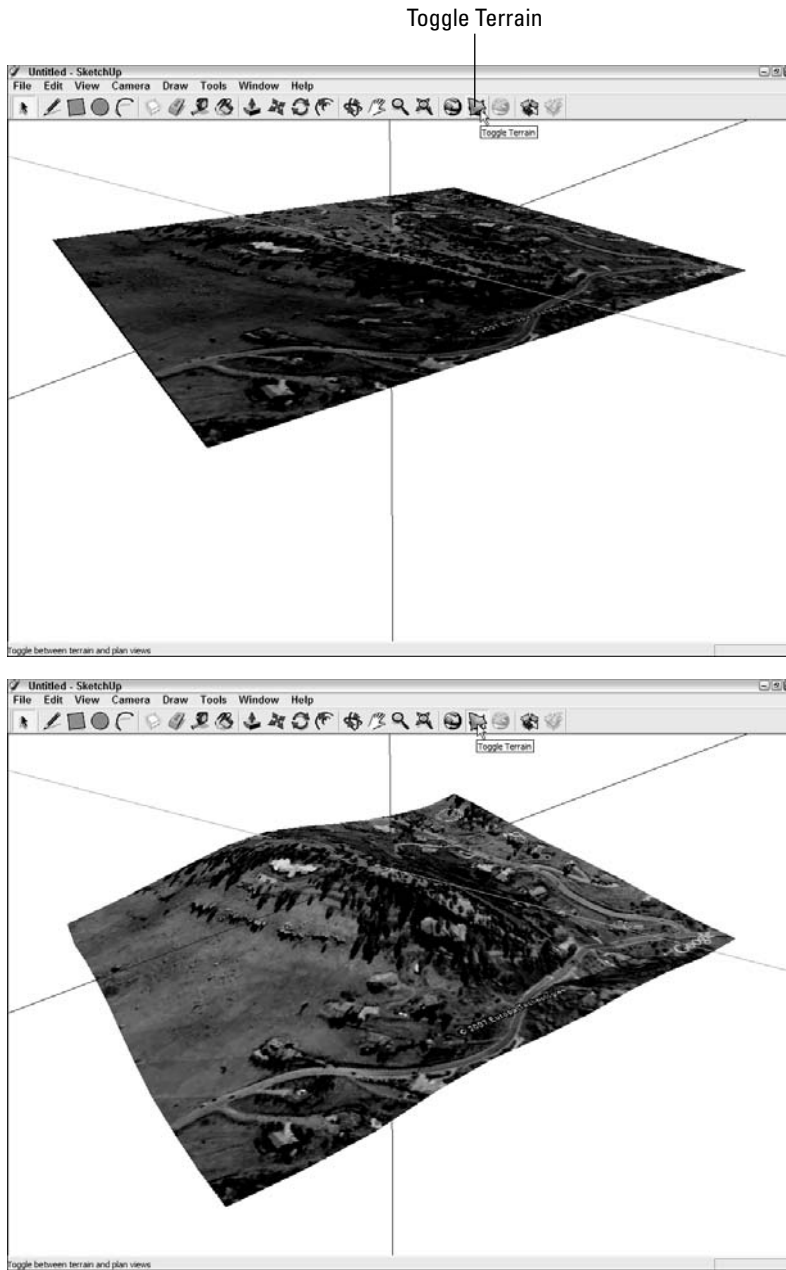

Figure 11-7:
- ✓ **There's more to snapshots than meets the eye.** The snapshot that SketchUp imports from Google Earth is more than just a black-and-white aerial photo — it also includes a chunk of topography called *terrain*. The terrain is flat when you first import it because it's easier to build on that way, but you can toggle between flat and 3D (not flat) views by choosing Tools⇨Google Earth⇨Toggle Terrain. Don't fret if you don't see any difference when you flip between the views — you probably just chose a flat site. Figure 11-7 shows the same snapshot with terrain toggled off (top) and on (bottom).